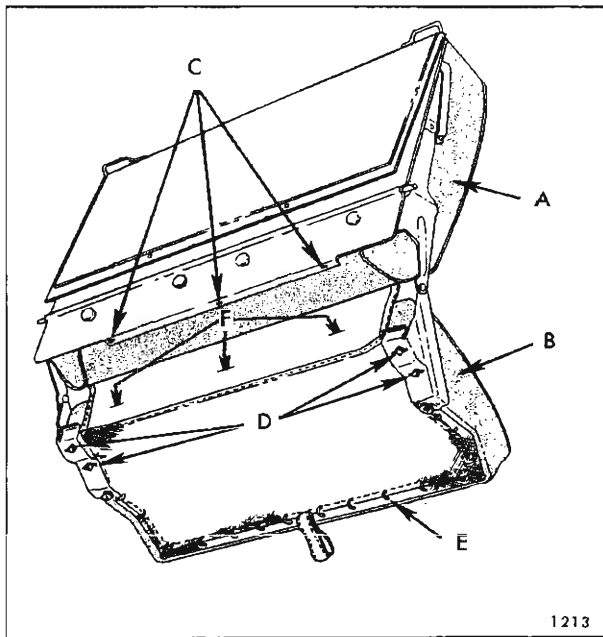

Fig. 15-93—Folding Third Seat Assembly
2. Remove hog rings securing seat back trim flap to bottom of seat cushion (Fig. 15-93).
frame (Fig. 15-93) and three screws securing rear edge of seat cushion trim to seat cushion frame; then, remove cushion trim assembly from cushion frame.
- Remove hog rings securing seat back trim flap to bottom of seat cushion (Fig. 15-93).
- To remove seat back trim assembly remove seat back trim-to-seat back panel attaching screws (Fig. 15-93); then, lift trim assembly upward to disengage wire loops on seat back trim from slots in seat back panel and remove trim assembly.